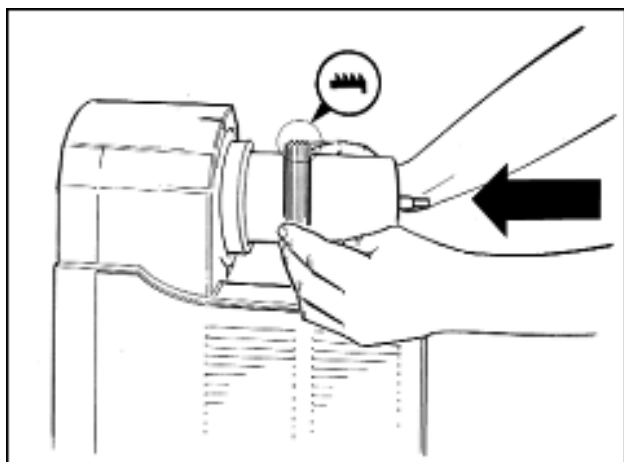

Fig. 41
- Reassemble the rear gasket and the bell shaped one, respecting the correct direction as indicated in Fig. 41 .